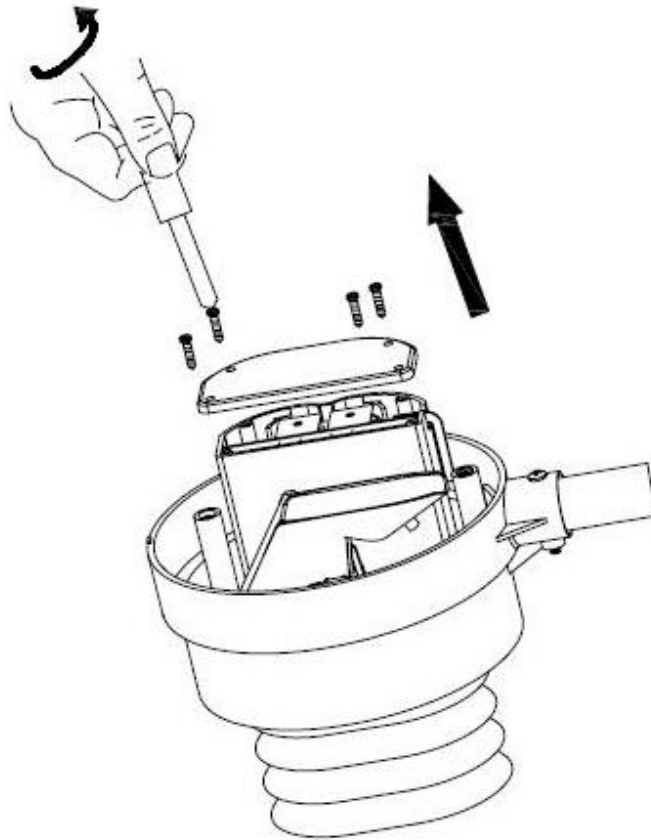

Figure 12
3. Remove the sensor electronics door by removing four screws as shown in Figure 12.